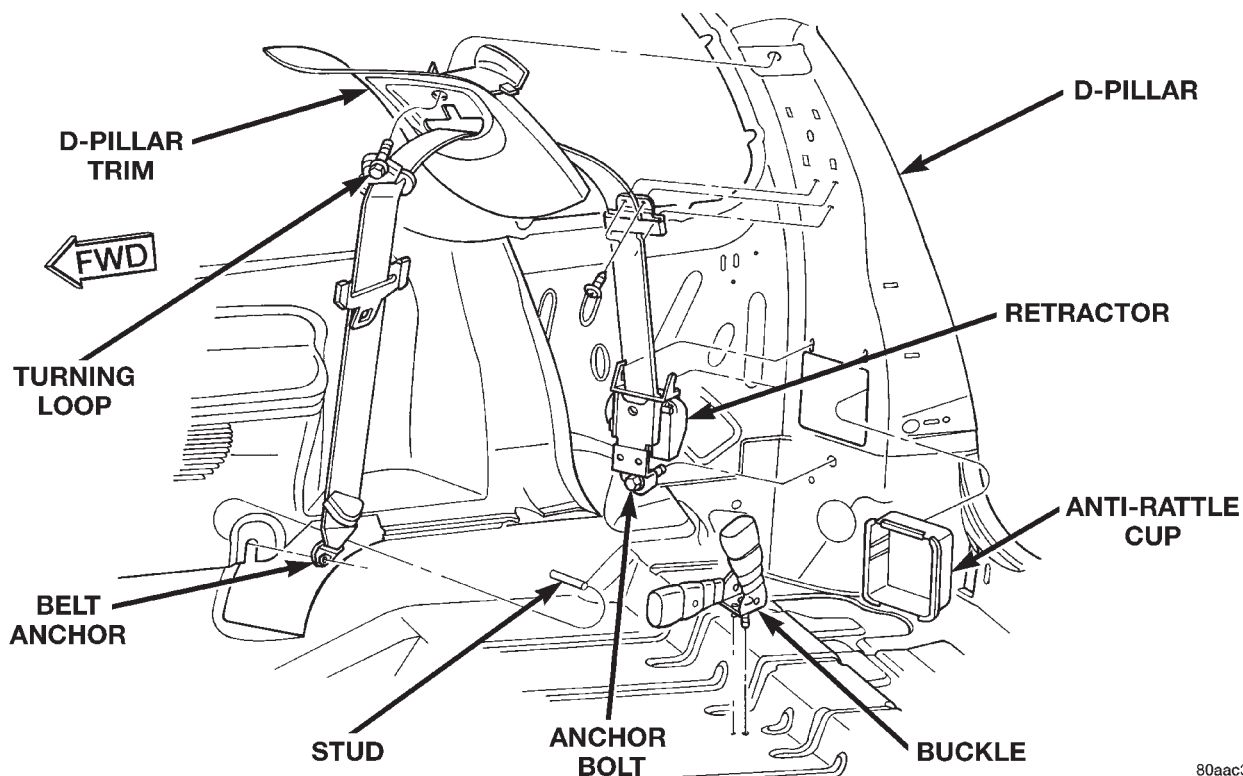

Fig. 86 D-Pillar Trim
(1) Remove liftgate opening upper trim.
(2) Remove screw attaching D-pillar trim to upper liftgate opening.
(3) Remove 3rd row seat, if equipped.
(4) Remove nut attaching 3rd row seat belt anchor to quarter panel, if equipped.
(5) Remove bolt attaching 3rd row seat belt turning loop to D-pillar, if equipped (Fig. 86).
(6) Grasp upper edge of D-pillar trim and carefully pull outward to disengage upper spring clips.
(7) Lift D-pillar trim upward to release it from the quarter panel trim.
(8) Route 3rd row seat belt through access slot, if equipped.
(9) Separate D-pillar trim from vehicle.
(1) Route 3rd row seat belt through access slot, if equipped.
(2) Position D-pillar trim on D-pillar.
(3) Slid D-pillar trim downward to engage it with the quarter panel trim.
(4) Align D-pillar trim upper spring clips and press inward to engage .
(5) Install screw attaching D-pillar trim to upper liftgate opening.
(6) Install liftgate opening upper trim.
(7) Install bolt attaching 3rd row seat belt turning loop to D-pillar, if equipped (Fig. 86). Tighten bolt to 38 N·m (28 ft. lbs.) torque.
(8) Install nut attaching 3rd row seat belt anchor to quarter panel, if equipped. Tighten nut to 38 N·m (28 ft. lbs.) torque.
(9) Install 3rd row seat, if equipped.